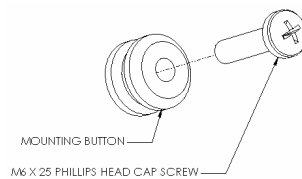
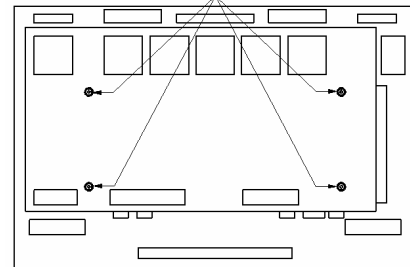

Figure 3
Figure 4
2. Attach mounting buttons to display using four M6 x 25 screws provided (see Figure 3 & Figure 4).